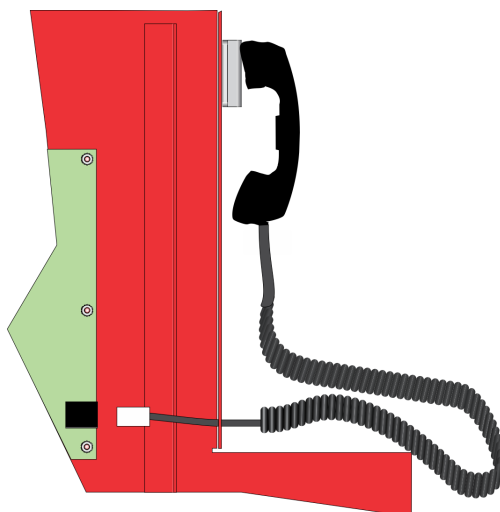

Figure 3-5 Handset Cord Inserted Through Dead Front Panel Hole
1. Insert phone cord through hole of dead front panel. See Figure 3-5.